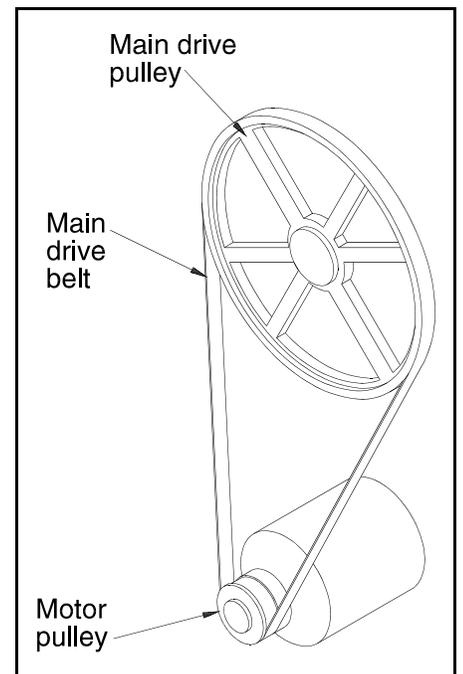

FIGURE 5 (MSSM0712AE)
2. Determine deflection for the main drive belt (see FIGURE 5 for the belt location and Table for the setting range). Move lower O-ring to the correct setting (inches or centimeters) on scale. Read the bottom edge of the O-ring.